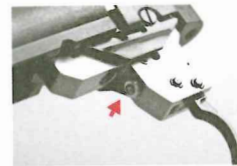

Fig. 9, Trigger weight adjusting screw and lock nut
B. Loosen the lock nut on the front adjusting screw by turning the nut counter clockwise (when viewed from the front), (see Fig. 9).